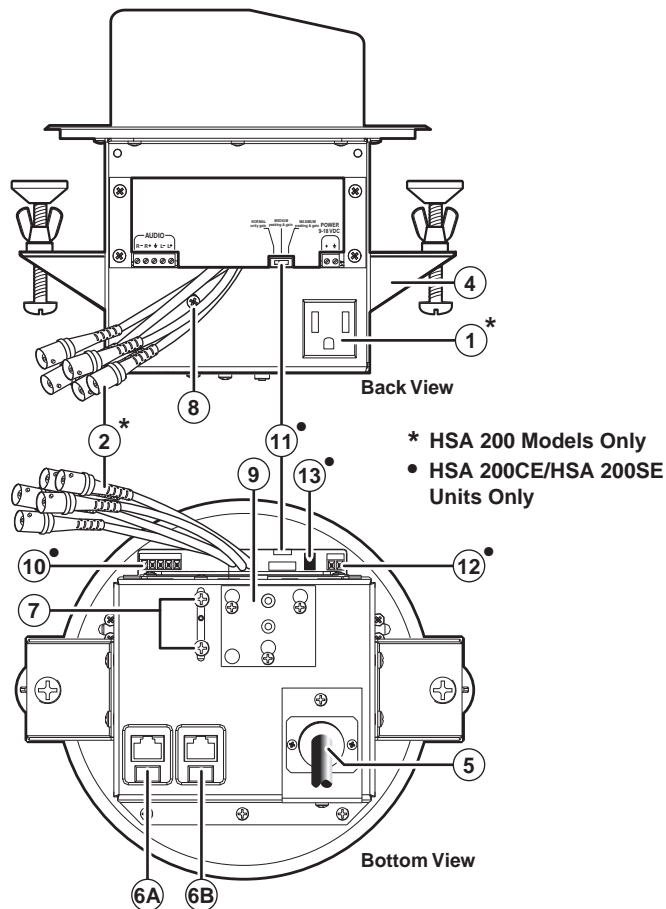
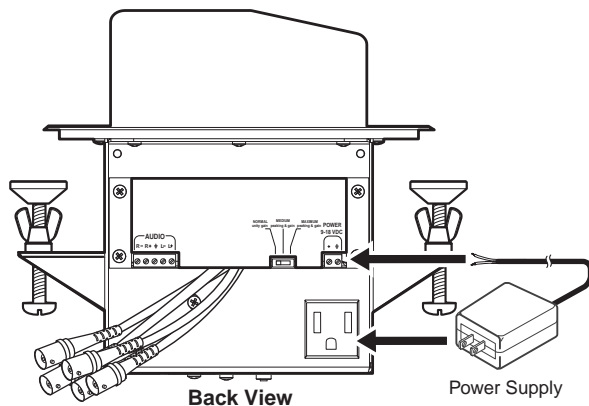

Figure 2-5 — HSA 200CE under-table features
Figure 2-10 — Powering the Extender board
Figure 2-5 shows the under-table connectors and other features that present on HSA 200CE models. Other HSA 200 and HSA 222 models have a subset of the same or similar features.
1. See figure 2-10. Plug the input connector of the included 100-240 VAC, 50/60Hz, 12 VDC power supply into the AC power outlet on the underside of the enclosure (① on figure 2-5).